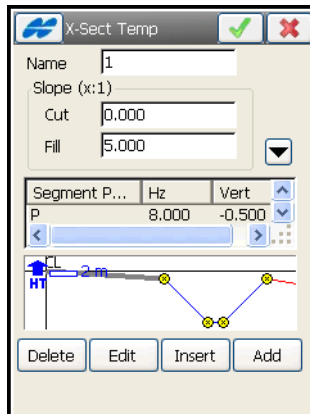

Figure 7-23. X-sect Templates
2. On the *X-Sect Templates* screen, enter the parameters of the template: the name of the template, the Cut/Fill slope parameters, and the segments comprising the template (Figure 7-23).